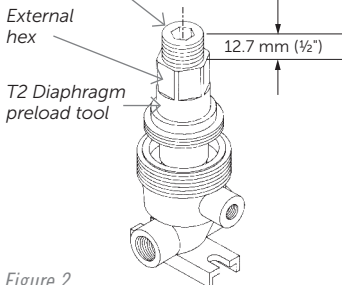

Figure 2
8. Use the  $\frac{3}{8}$ " allen wrench (S6) to turn the adjusting screw on the diaphragm preload tool (T2) out 12.7 mm ( $\frac{1}{2}$ " (see Figure 2). Now, place the diaphragm preload tool (T2) onto the retainer nut (P12) (see Figure 2).